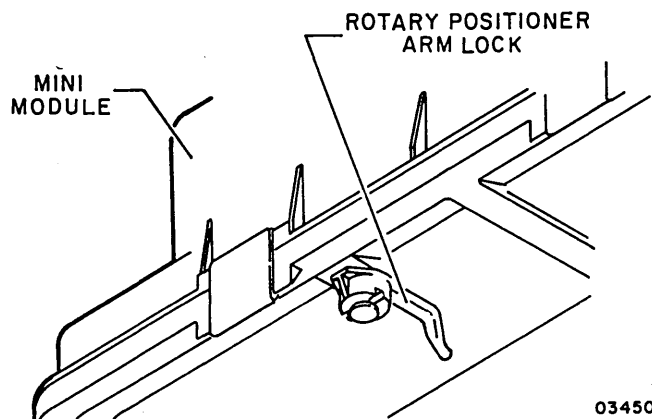

Figure 2-3. Rotary Positioner Arm Lock Location
16. Unlock actuator by placing rotary positioner arm lock at underside of MMD module to OFF position as shown in figure 2-3.